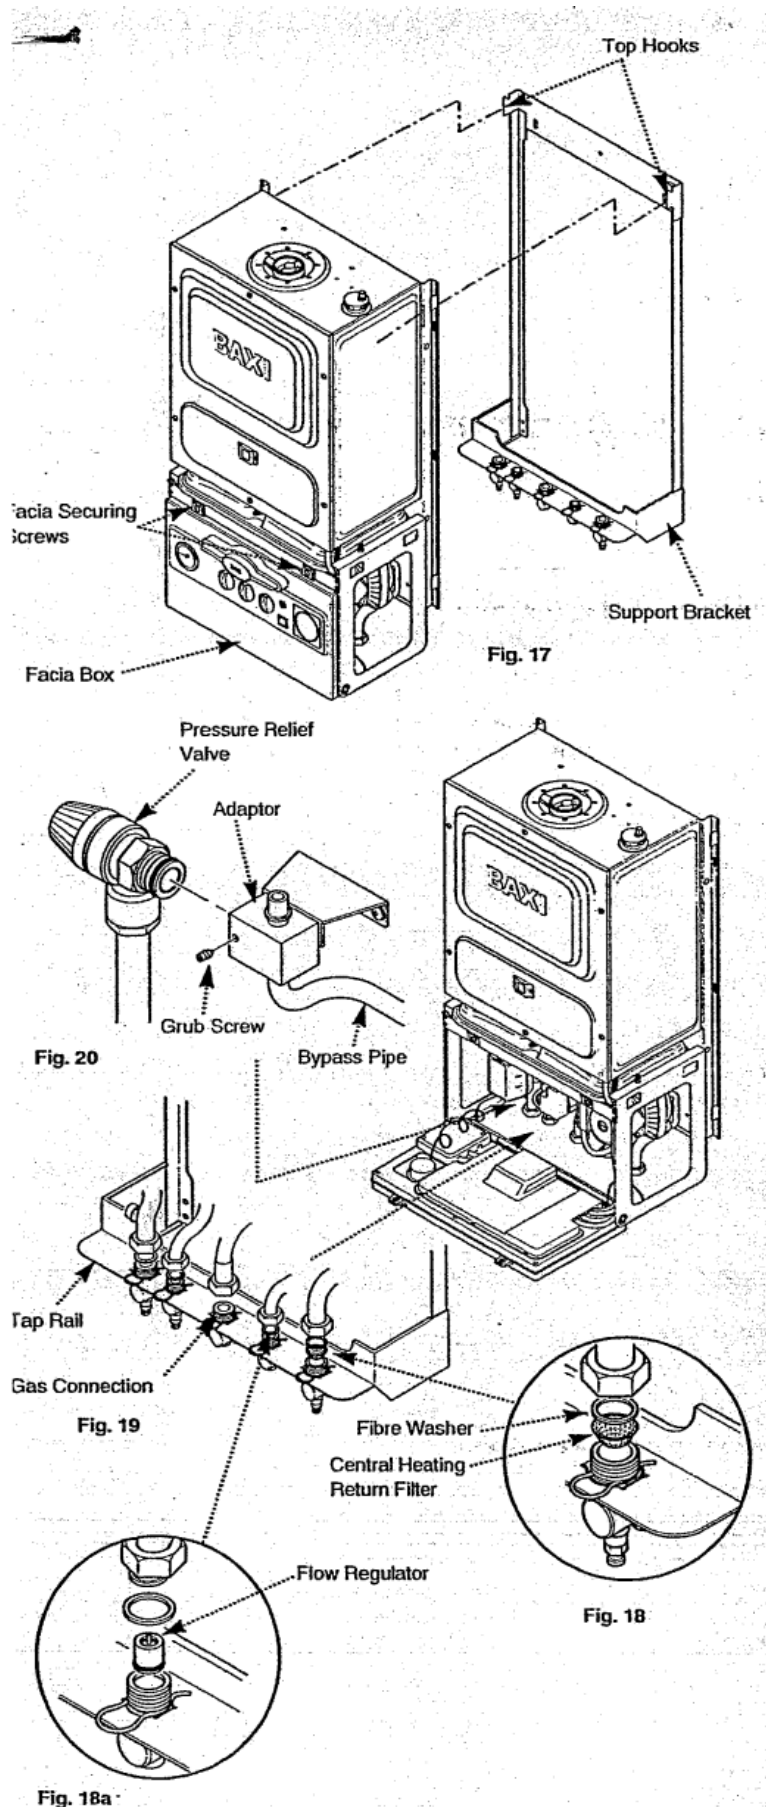

Fig. 17, 18, 18a, 19, 20
3. Lift the boiler over the support bracket and engage onto the top hooks (Fig. 17).